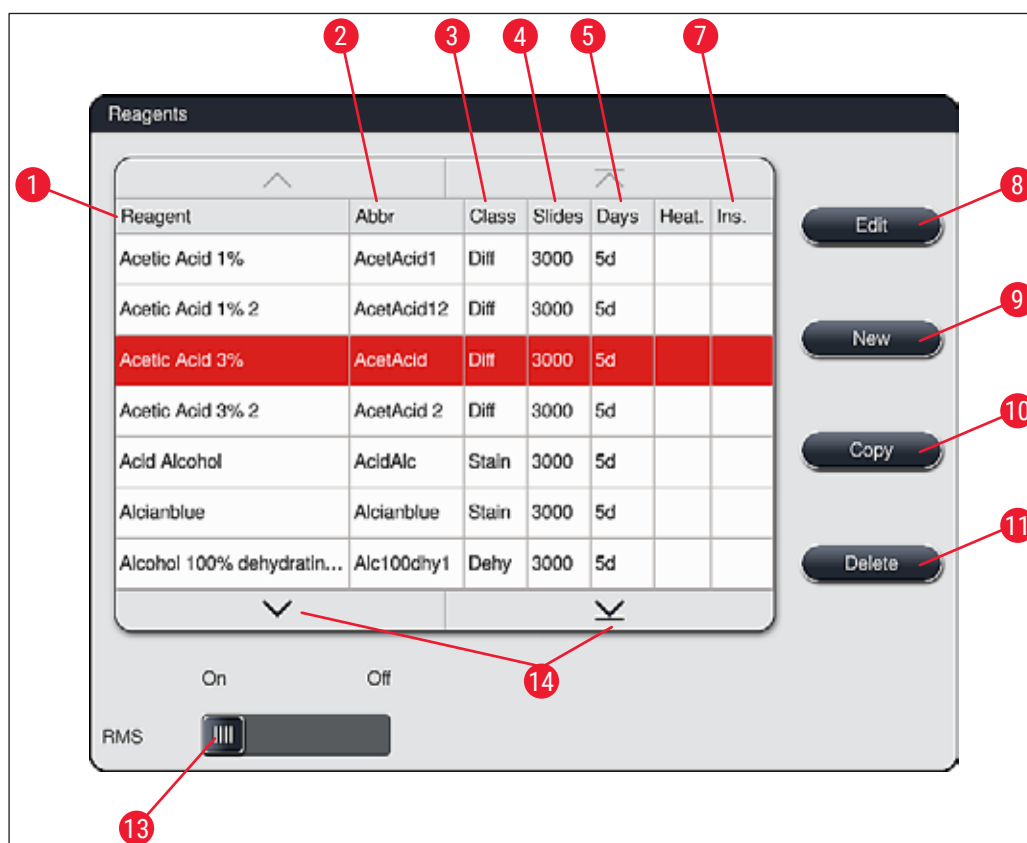

Fig. 36
- Select the reagent to be copied in the reagent list (→ "Fig. 36") by tapping it and **press the Copy** (→ "Fig. 36-10") button.
- Select the reagent to be changed in the reagent list (→ "Fig. 36") by tapping it and **press the Edit** (→ "Fig. 36-8") button.